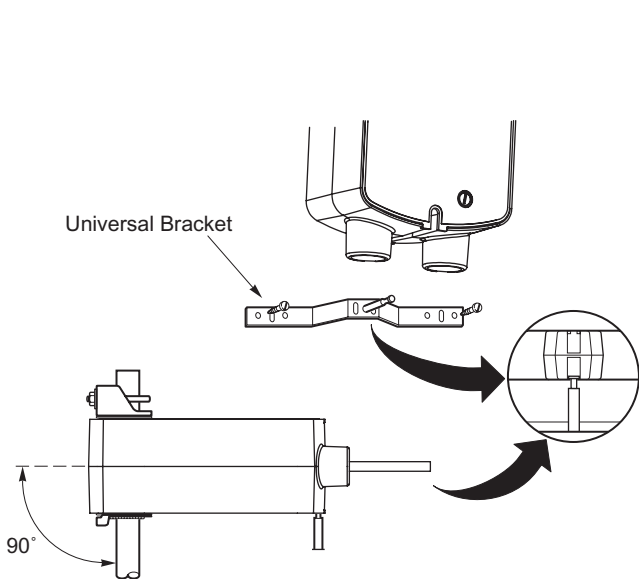

Figure-7 Mounting Universal Bracket to Actuator.
4. Align the universal bracket at the base of the actuator and drill mounting holes. Bend the bracket as needed to reach the duct (Figure-7).
7. Align the universal bracket (anti-rotation bracket) at the base of the actuator and drill mounting holes. Bend the bracket as needed to reach the duct. Attach the bracket to the duct with #8 sheet metal screws (Figure-7).